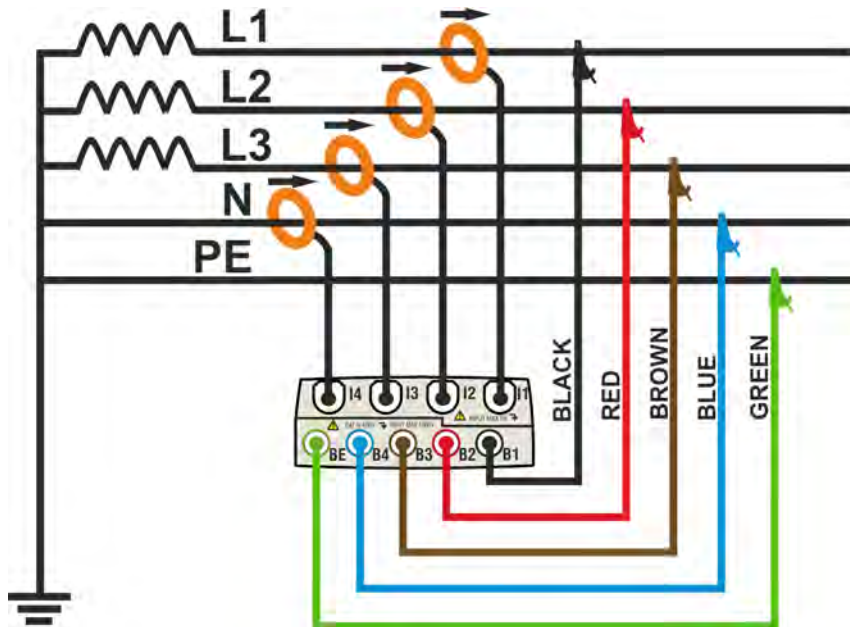

Fig. 132: Meter connection in a three phase 4WIRE system – ENG type
2. Connect voltage test leads on Phases L1, L2, L3, Neutral and Ground cables considering the colours as shown in Fig. 132. **Verify the result “123” at display relative to a correct phase sequence indication** (see § 5.2.1) and perform the corrections if necessary.
3. Connect the transducer current clamps on Phase L1, L2, L3 and Neutral N cables as shown in Fig. 132 respecting the clamp’s arrow direction indicating the current standard sequence from generator to load. **On Real Time Values’ section screens always verify the positive value of Active Power and the power factor relative to each load which should be normally inductive** before starting a recording. Reverse the clamp by 180 degrees on cables in case of negative readings.